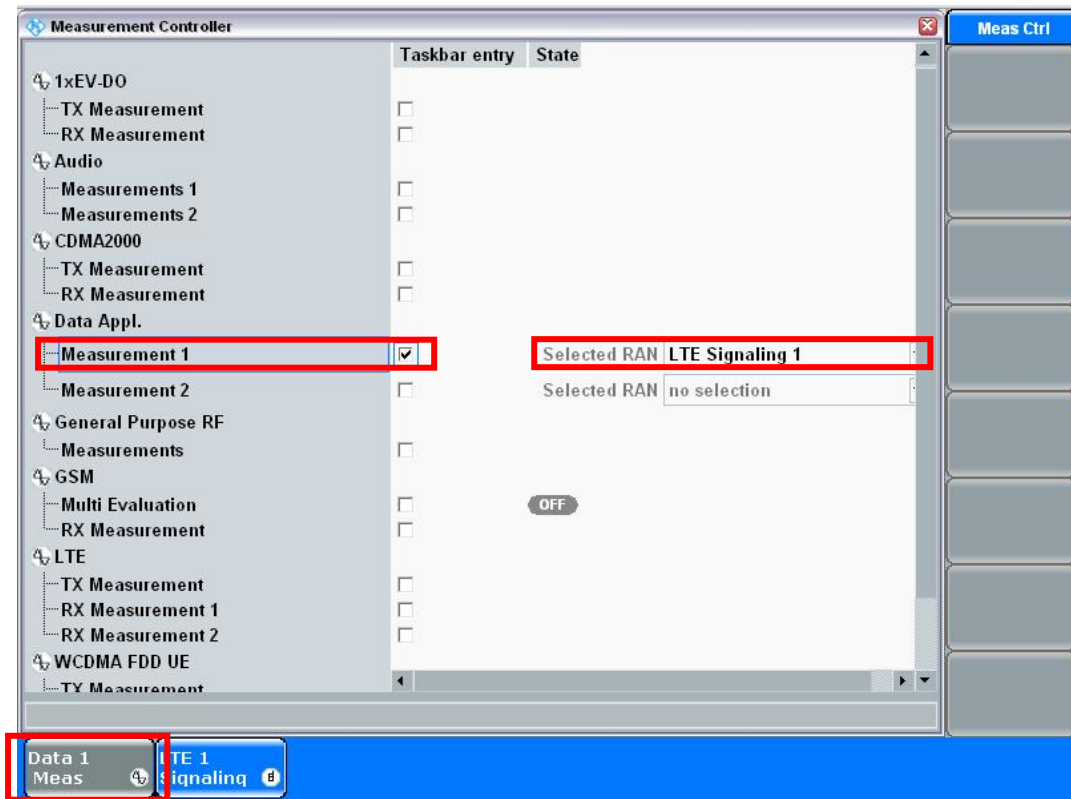

Figure 12: Selecting Measurement Task
1. Press the button **MEASURE** at the front panel of the CMW500 (blue box in Figure 10). Select **Data Appl.** → **Measurement 1** and **Selected RAN** → **LTE Signaling 1** (see Figure 12).
1. Press the button **MEASURE** at the front panel of the CMW500 (blue box in Figure 10) and select **Data Appl. Measurement 1** (see Figure 12).
2. Select the Task **Data 1 Meas** (lower part of Figure 12).